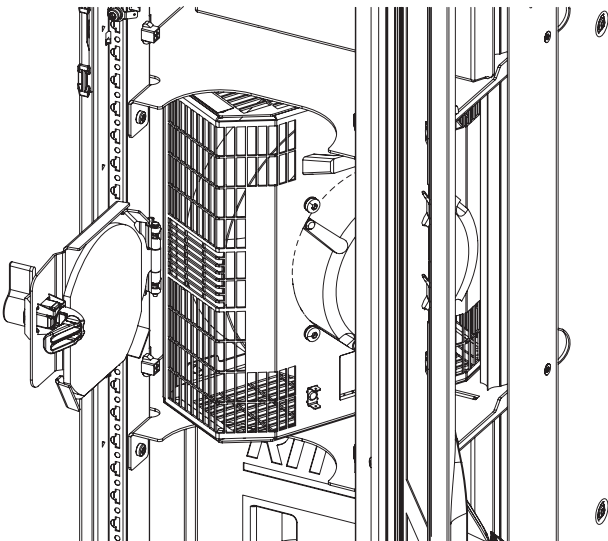

Fig. 53: Rotated fan module in fan tray
- Rotate the fan module in the rack by 90° in a counter-clockwise direction (fig. 53).